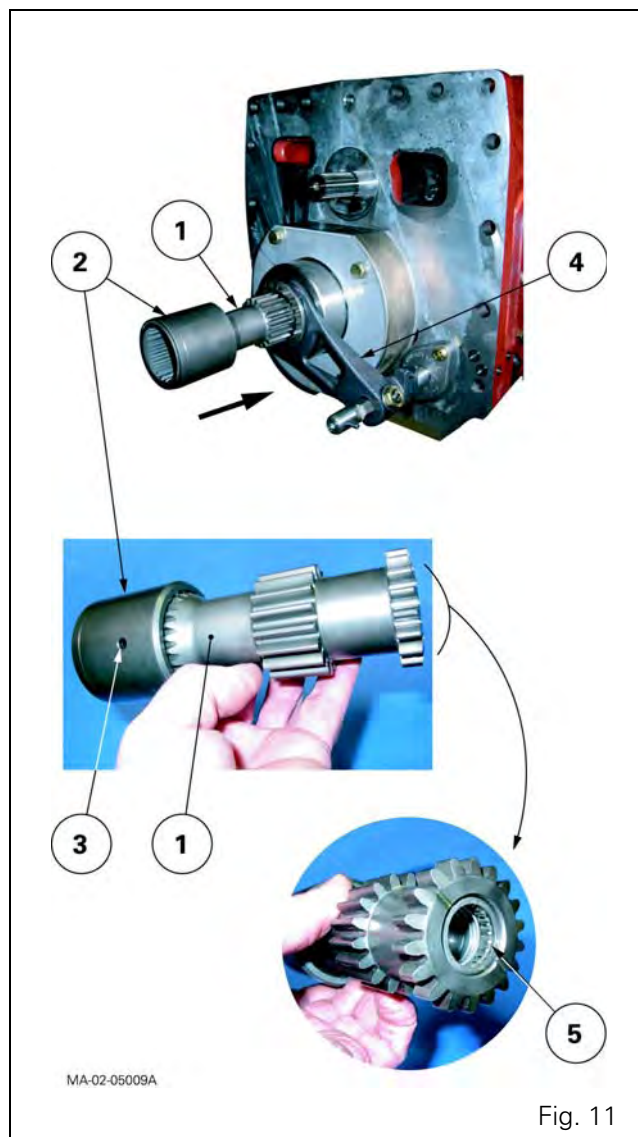

Fig. 11
- **Gearbox with creeper unit (Fig. 11)**